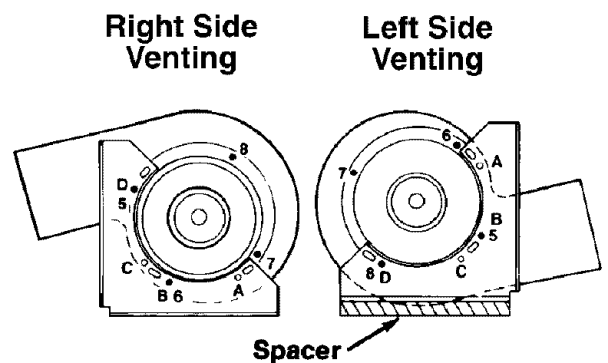

Figure 17
4. Relocate the mounting brackets on the blower housing as shown in figure 17.
**a. Right side venting (figure 17).**
**b. Left side venting (figure 17).**
5. Attach the blower housing to the floor with the outlet towards the direction of the venting and the inlet towards the front of the cabinets. In addition, for left side venting, a spacer of approximately 1-1/2" thick x 9" long (3.81 cm x 22.86 cm) is required under the mounting bracket flanges of the blower assembly (see figure 17).